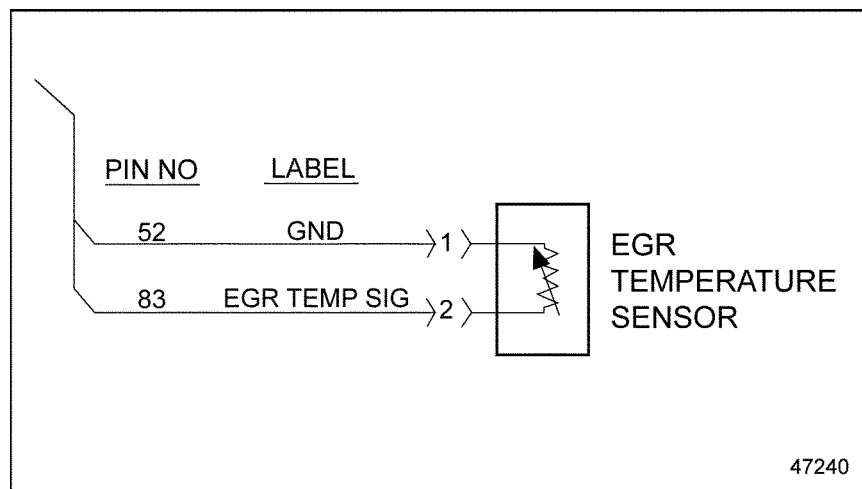

Figure 16-2 EGR Temperature Sensor
- [a] If the resistance is less than 5 Ω , repair the short between wires 52 and 83 of the 120-pin MCM connector. See Figure 16-2. Refer to section 16.2.1.1.